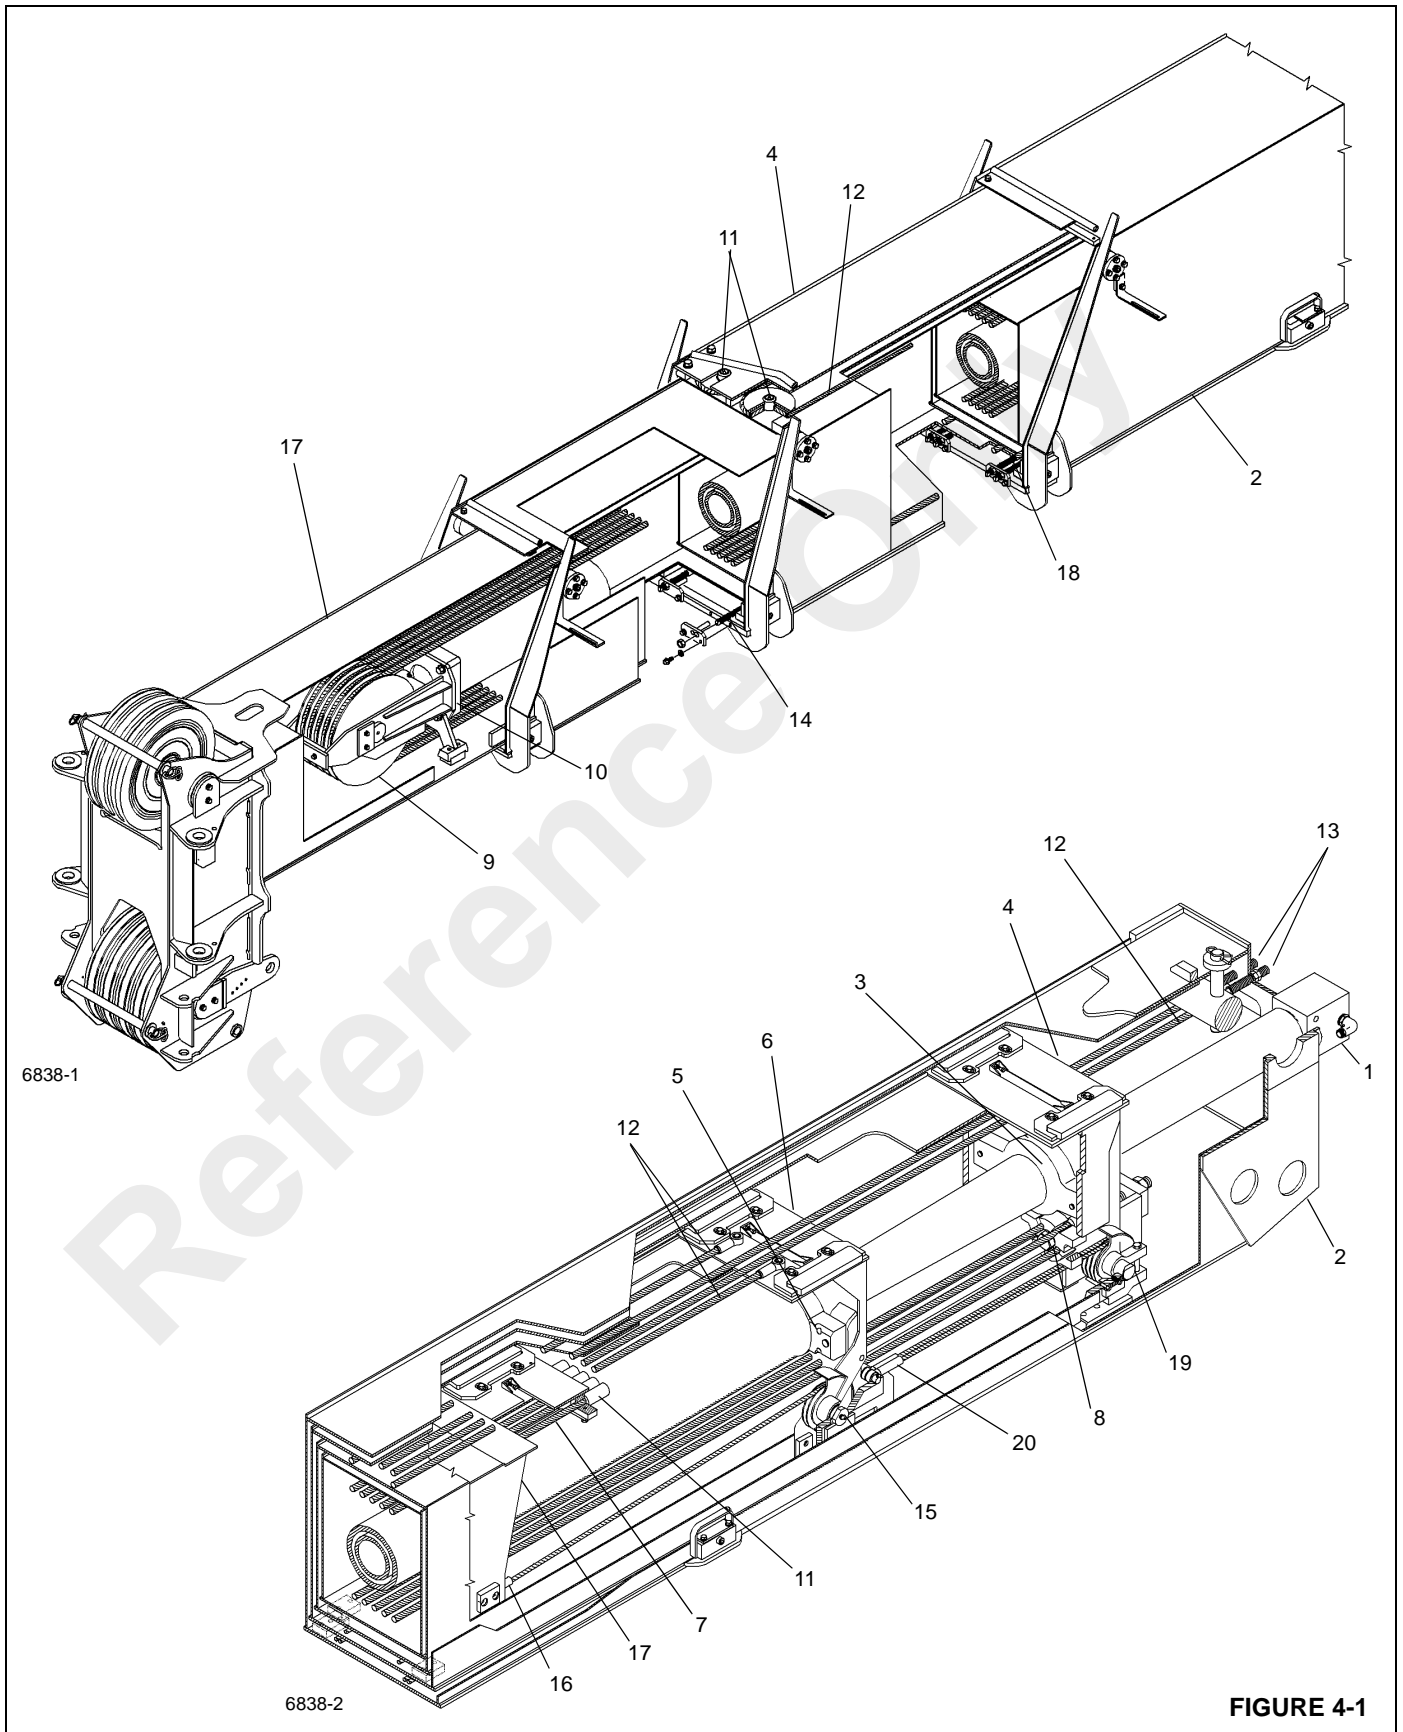

FIGURE 4-1
The telescope cylinder is attached to the boom in three places: Refer to Figure 4-1 for item location.
The fly section has five extension cables (7) attached to it. Refer to Figure 4-1 for item location.
Refer to Figure 4-1 for item location. The long extend synchronizing cables (12) are connected to the rear of the
Refer to Figure 4-1 for item location. The two retraction cables (14) are secured at the outside front of the inner mid section (4), are routed around sheaves (15) mounted on the end of the outer mid section (6) and are secured at the opposite end (16) to the fly section (17).
Refer to Figure 4-1 for item location. The four retraction cables (18) are secured at the outside front of the base section (2), are routed around sheaves (19) mounted on the end of the inner mid section (4) and are secured (20) at the opposite end to the outer mid section (6).
Refer to Figure 4-1 for item location. As the telescope cylinder extends, the cylinder barrel (5), which is attached to the outer mid section (6), and the inner cylinder rod (3) which is attached to the inner mid section (4), pulls the mid sections out along with it.
Refer to Figure 4-1 for item location. As the telescope cylinder is retracted, the outer mid section (6) (attached to the cylinder barrel) and the inner mid section (4) (attached to the inner cylinder rod) are pulled in.